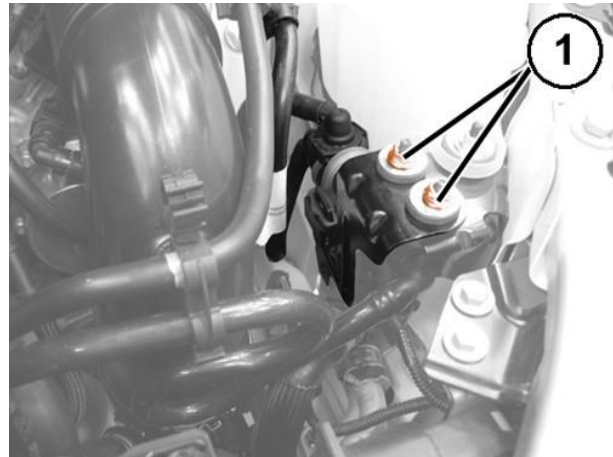

Figure 43 – Solenoid Support Bracket
28. Remove the attaching nuts (1) of the solenoid valve support bracket (Figure 43).